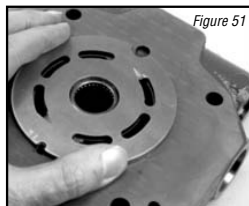

Figure 51
**23** Lightly coat the backplate side of the valve plate with petroleum jelly for retention during assembly. Install the valve plate over the needle bearing, aligning the small slot on the outside of the valve plate with the dowel pin in the backplate (see Figure 51).